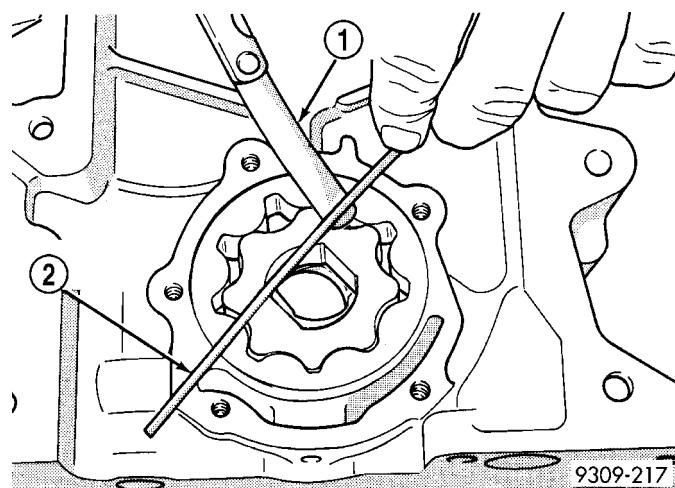

Fig. 112 Measuring Clearance Over Rotors
(7) Place a straightedge across the face of the chain case cover, between bolt holes. If a feeler gauge of 0.10 mm (0.004 in.) or more can be inserted between rotors and the straightedge, replace pump assembly (Fig. 112). **ONLY** if rotors are in specs.